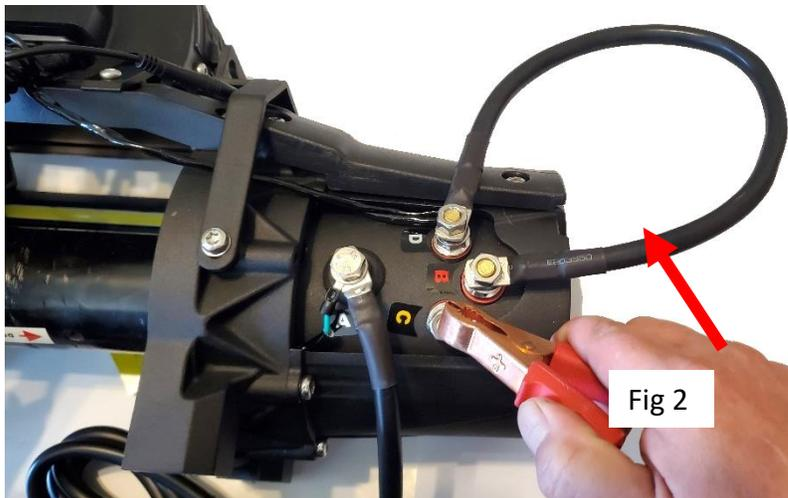

Fig 2
**Step 4:** Attach a large gauge jumper wire between the B ( red) and the D (black) terminals. Using a jumper cable from the positive battery terminal to terminal C (yellow) on the motor tap the jumper onto the terminal. Take care that jumper cable does not contact motor housing Motor should power the opposite direction. Fig 2.